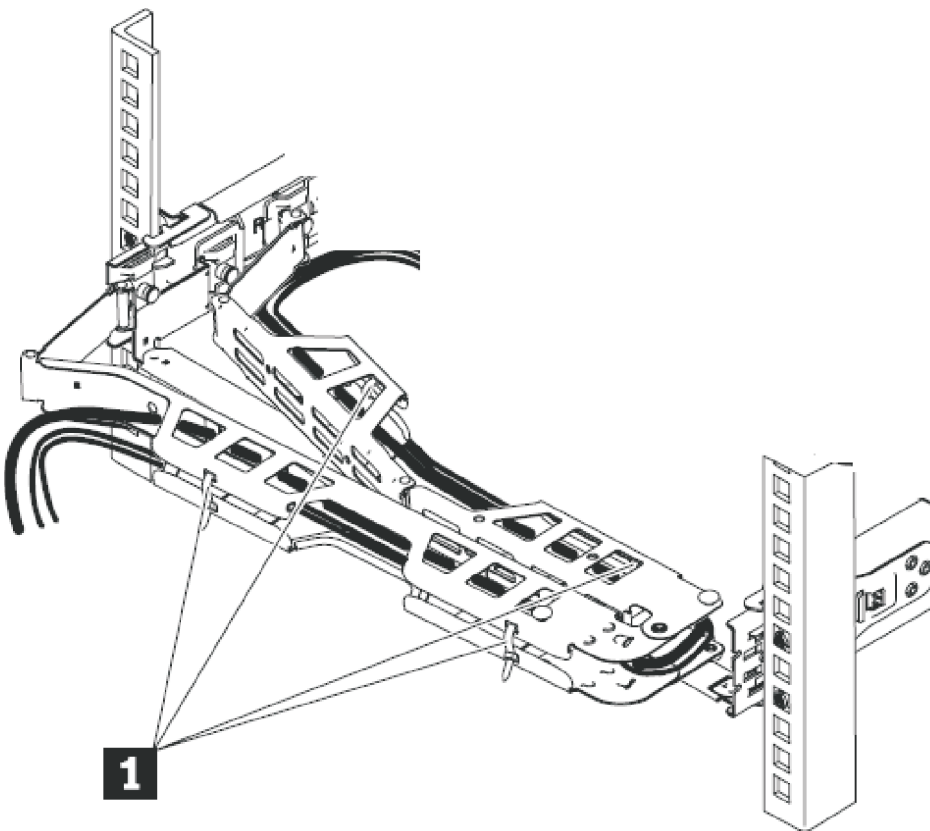

Figure 11. Removing the cables from the cable-management arm
- b. Free the cables and power cords from the cable-management arm, as shown by **1** in Figure 11.